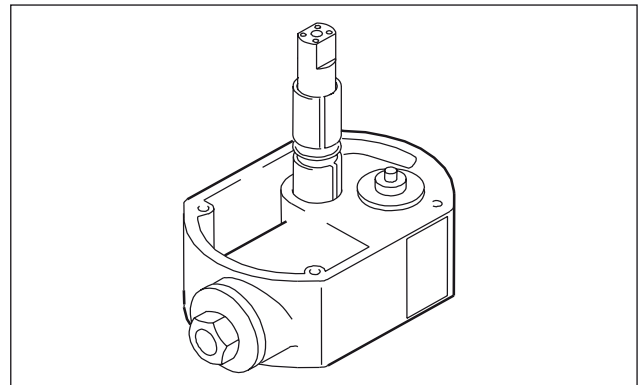

Fig. 18: Assembly of piston rod
- For assembly of plain bearing bushings and seal ring it is recommended to use the piston rod for guidance. Take care to assemble the plain bearing bushings with the slits offset to each other (Fig. 18).